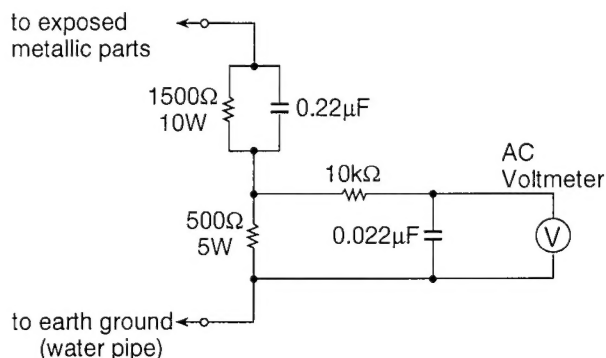

Fig. 1
2. Connect the test jig shown in Fig.1 between each exposed metallic part on the monitor and an earth ground such as a water pipe.